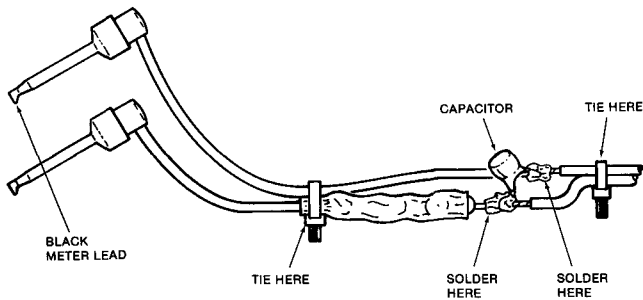

Fig. B-7. Assembly, step 4.
4. Solder capacitor and black meter leads as shown in Fig. B-7. Tie meter leads where shown. See Fig. B-7.